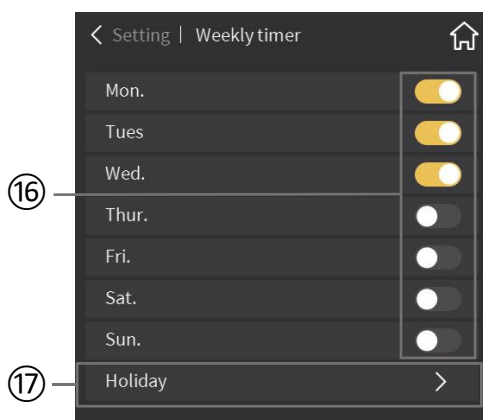

Fig.2.11.9
⑫ This icon is for keystroke volume setting;**⑬ This icon for keystroke volume increasing;****⑭ This icon for keystroke volume decreasing;**
Touching icon will pop up a sub-window as shown in fig.2.11.9, for setting keystroke volume. By touching icon⑬ and icon⑭ to increase/decrease keystroke volume, the volume is displayed by the proportion on the volume bar of 5 blocks.